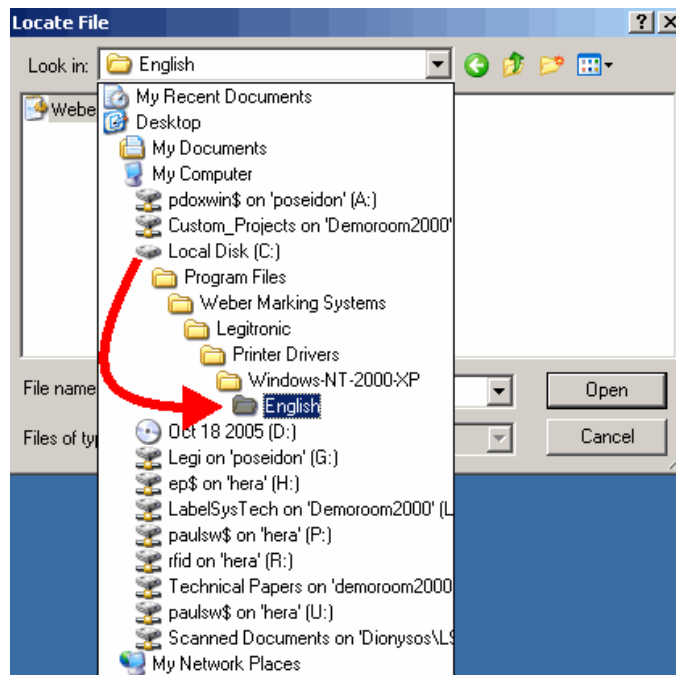

Figure 3-9
3.2.9. Browse to the *C:\Program Files\Weber Marking Systems\Legitronic Labeling Software\Printer Drivers\Windows-NT-2000-XP\English* folder. (Figure 3-9)